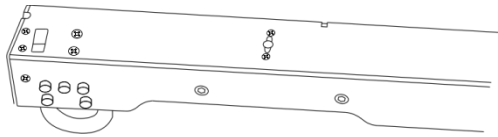

Fig. 03
- 01)** Check whether the Stand Stud Adapter is extended out of the bottom. Normally, the factory setting is as shown in fig. 03.